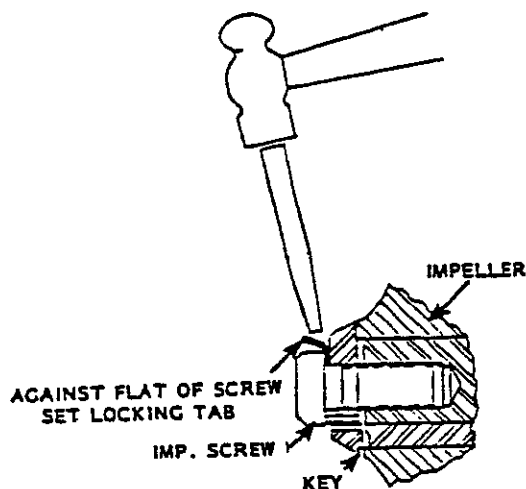

FIG. 10
1. Install casing wear ring - measure bore - set screw (320) in place
3. Reinstall impeller key. Lubricate shaft and impeller key with an anti-seize compound. Reinstall impeller. Install impeller screw lock washer (199A), impeller screw washer (199) and impeller screw (198). Torque impeller screw to value shown on torque chart, Section VI-D. Set impeller screw lock washer tang against one of the impeller screw flats. (Fig 10).